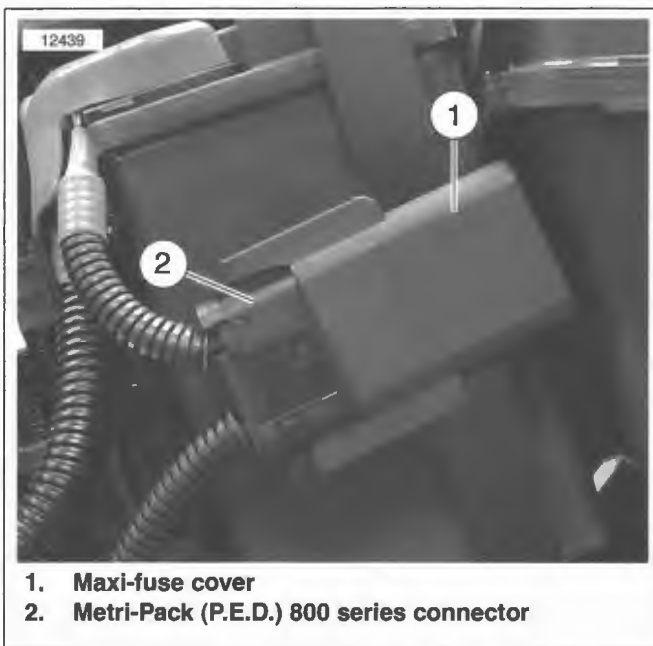

Figure B-30. Maxi-Fuse
1. See Figure B-30. Depress latches on maxi-fuse cover (1) and then slide cover off of connector (2).